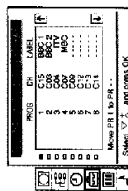

Fig. 16
- 5 Using Δ or ∇ select the programme position to which you want to move the channel of the programme position selected in step 4 and press OK. Now the programme positions have been sorted. (See Fig. 16)